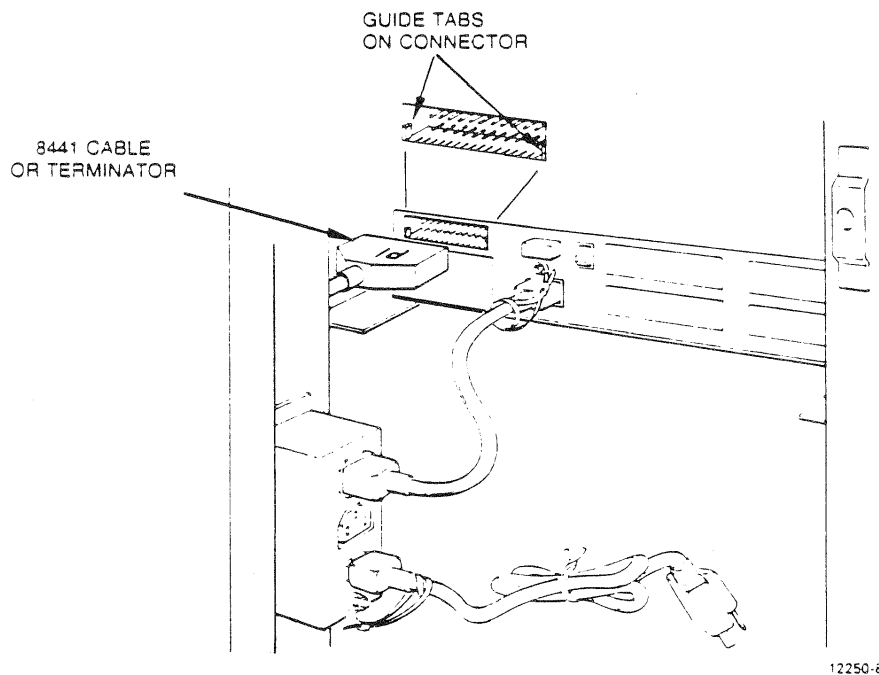

Figure C10
1. To connect a freestanding 8441 mass storage subsystem, attach cable end P1 from the subsystem to the connector in the back of the DCP/15 (Figure C10). (Built-in guides on the connector and cable prevent you from plugging in the cable upside down.) A terminator block should remain installed on the connector if a subsystem is not being connected.